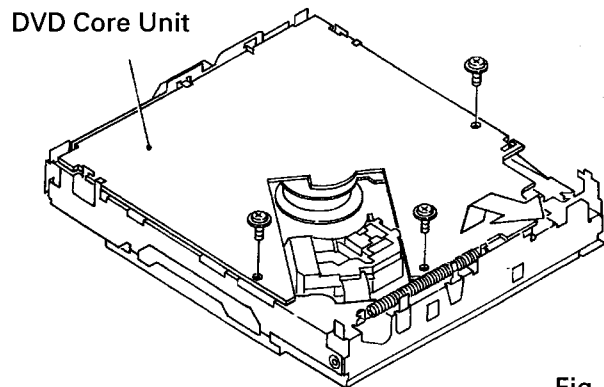

Fig. 3
5. Remove screws at three locations, and remove the DVD Core Unit (lift the board in the direction of the white arrow shown in fig. 3, and remove it out diagonally).